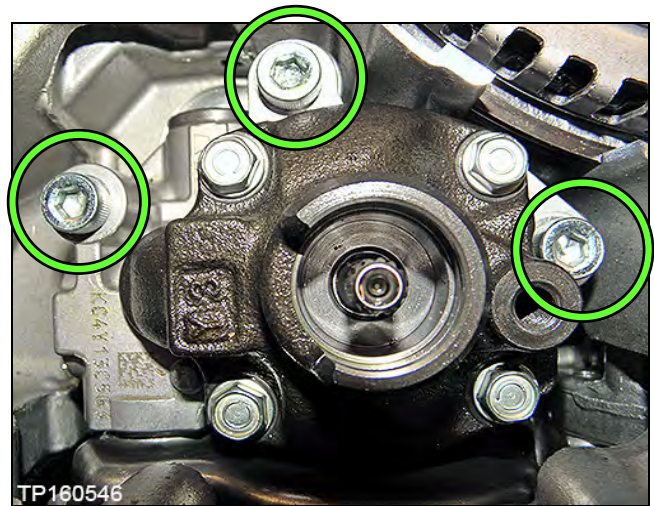

Figure 1D
1. Install the new oil pump using three (3) original Allen-head bolts (Figure 1D).